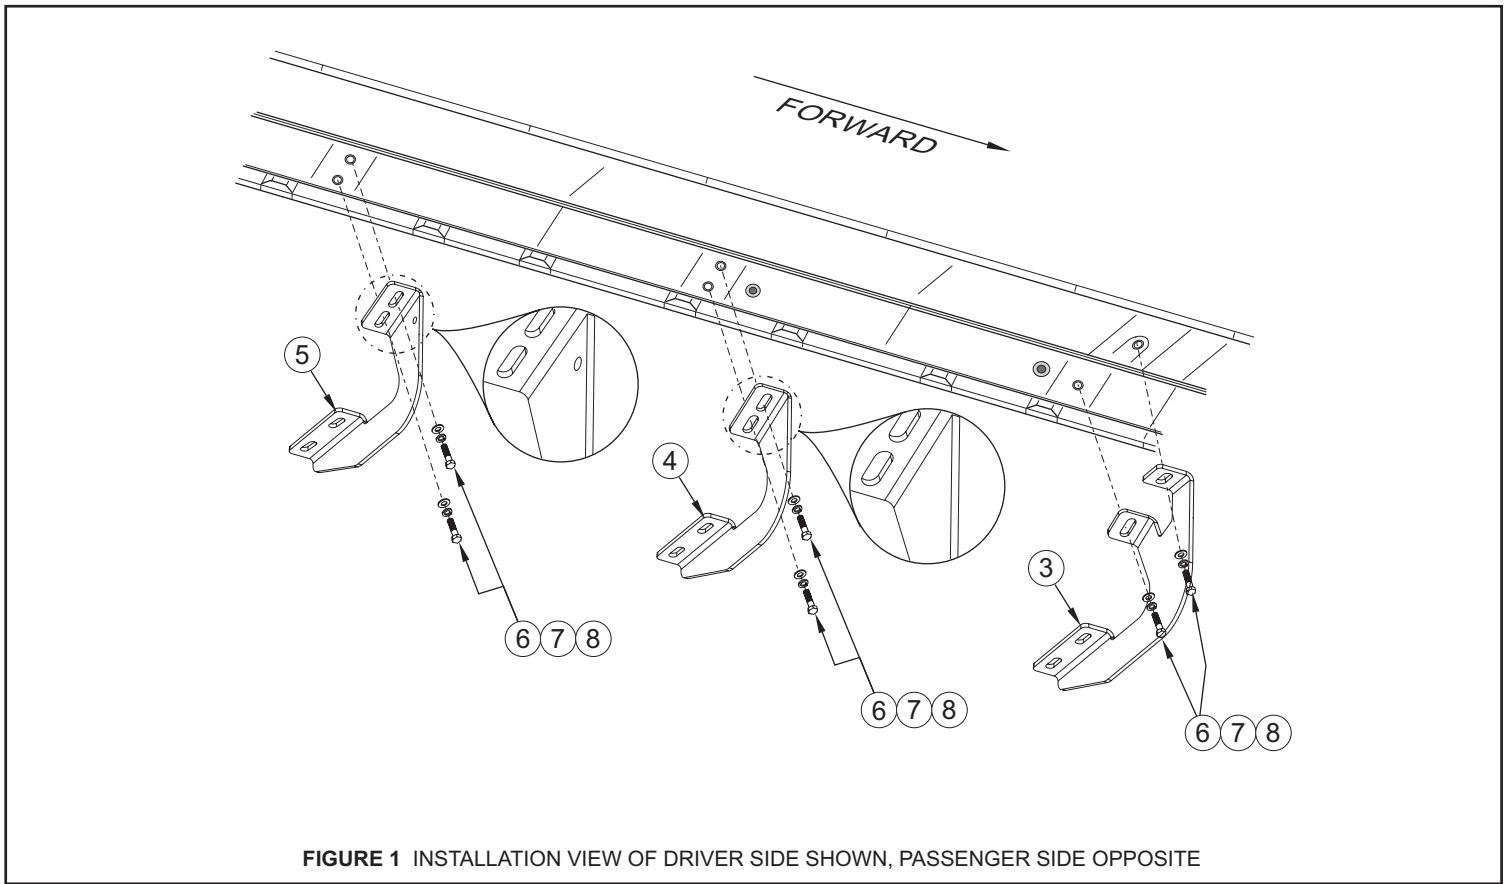

FIGURE 1 INSTALLATION VIEW OF DRIVER SIDE SHOWN, PASSENGER SIDE OPPOSITE
- STEP 2.** Determine front, center, rear brackets. Rear bracket has 1 identification hole. **SEE FIGURE 1.**
- STEP 3.** Attach drivers side brackets to underside of body panel using two M8-1.25 x 30mm hex head bolts, 3/8" flat washers, and 3/8" lock washers per bracket. Hand tighten. **SEE FIGURE 1.**